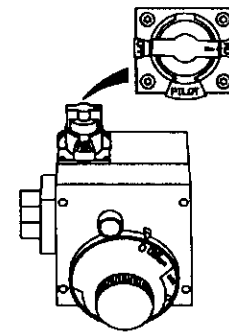

Figure 8
11. At arms length away, turn gas control knob counter-clockwise (↻) to the full "ON" position. **Warning do not use gas control knob to regulate gas flow.** (Figure 8, page 17)